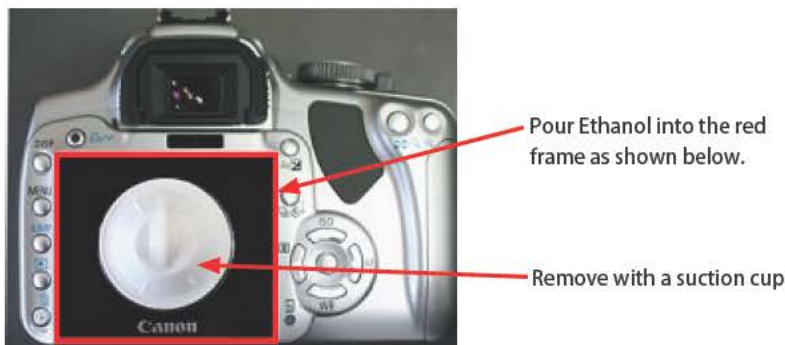

Fig. 025
- Pour Ethanol fully into the border between the back cover and the TFT display window as indicated in red in Fig. 025, and then adsorb the TFT display window with the suction cup and lift it to remove.